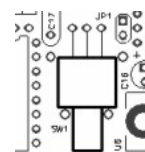

Figure 9.
Step 2: Turn ON power supply switch SW1 (See Figure 9)